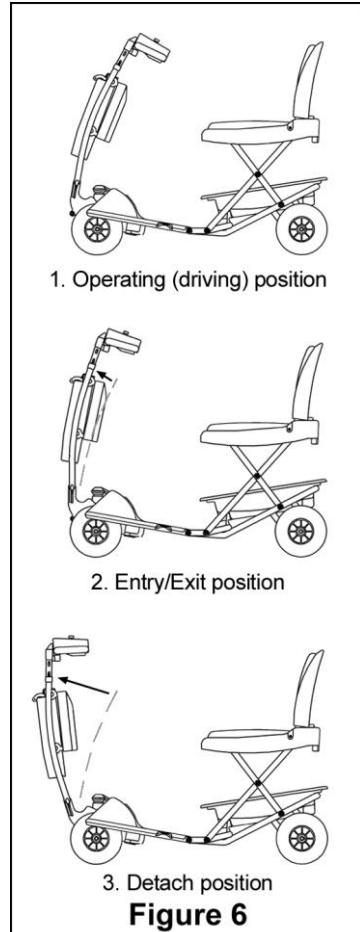

Figure 6
Front Column Adjustment (Figure 6)
3. For detaching the front column from the rear frame, adjust the column fully forward to the detach position (Fig. 6/3); remove battery before adjusting the column to the detach position.